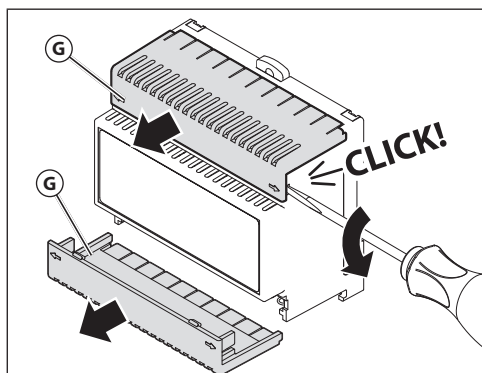

Fig. 3
1. Remove both terminal covers **G** inserting a 4.5 mm flat screwdriver into the clips **H** then rotate until you hear a **CLICK!** (Fig. 3)